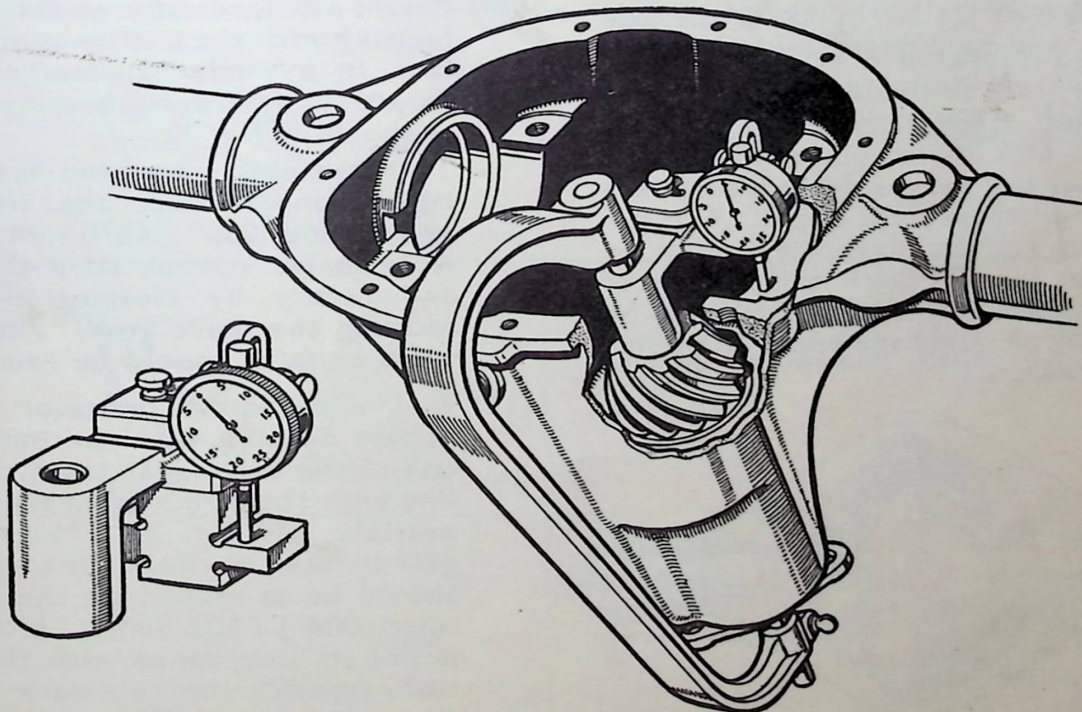

Fig. 25.
- (1) Place the pinion, with the inner bearing cone assembled, in the gear carrier.
- (2) Turn the carrier over and support the pinion with a suitable block of wood for convenience before attempting further assembly.
- (3) Install the pinion bearing spacer.
- (4) Install the original outer bearing shims on the pinion shank so that they seat on the spacer or a shoulder on the shank, according to the construction of the unit.
- (5) Fit pinion outer bearing cone, companion flange, washer and nut only, omitting the oil slinger and oil seal assembly, and tighten the nut.
- (6) Check the pinion cone setting distance by means of the gauge, *Tool No. SE.107* in the *Service Tool List*, see *Fig. 25*. The procedure for using the gauge is :—
- (7) If the pinion setting is incorrect it is necessary to dismantle the pinion assembly and remove the pinion inner bearing cup, using *Tool No. SE.105* in the *Service Tool List*. Add or remove shims as required from the pack locating the bearing cup and re-install the shim pack and the bearing cup. The adjusting shims are available in thicknesses of .003" (.076 mm.) .005" (.127 mm.) and .010" (.254 mm.). Then carry out the operations (1) to (6) detailed previously.